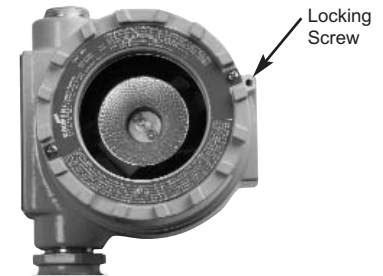

Figure 6.
2. Loosen lens ring locking screw but do not remove. See Figure 6.